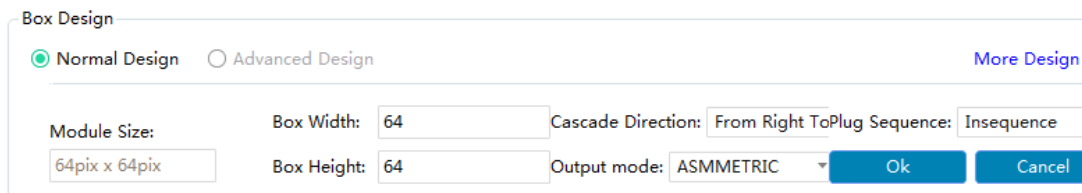

Figure 4-2-6 Box Design-Normal Design
(1) At the “Box Design” to select the “Normal Design”(normally the default will be the normal design”, click the “modify” button, to set the width and height of the box(cabinet) according to the actual loading status of the receiving card, as well as the cascading connection mode (cascade direction) of the flat cable and its output mode, as shown in figure 4-2-6.